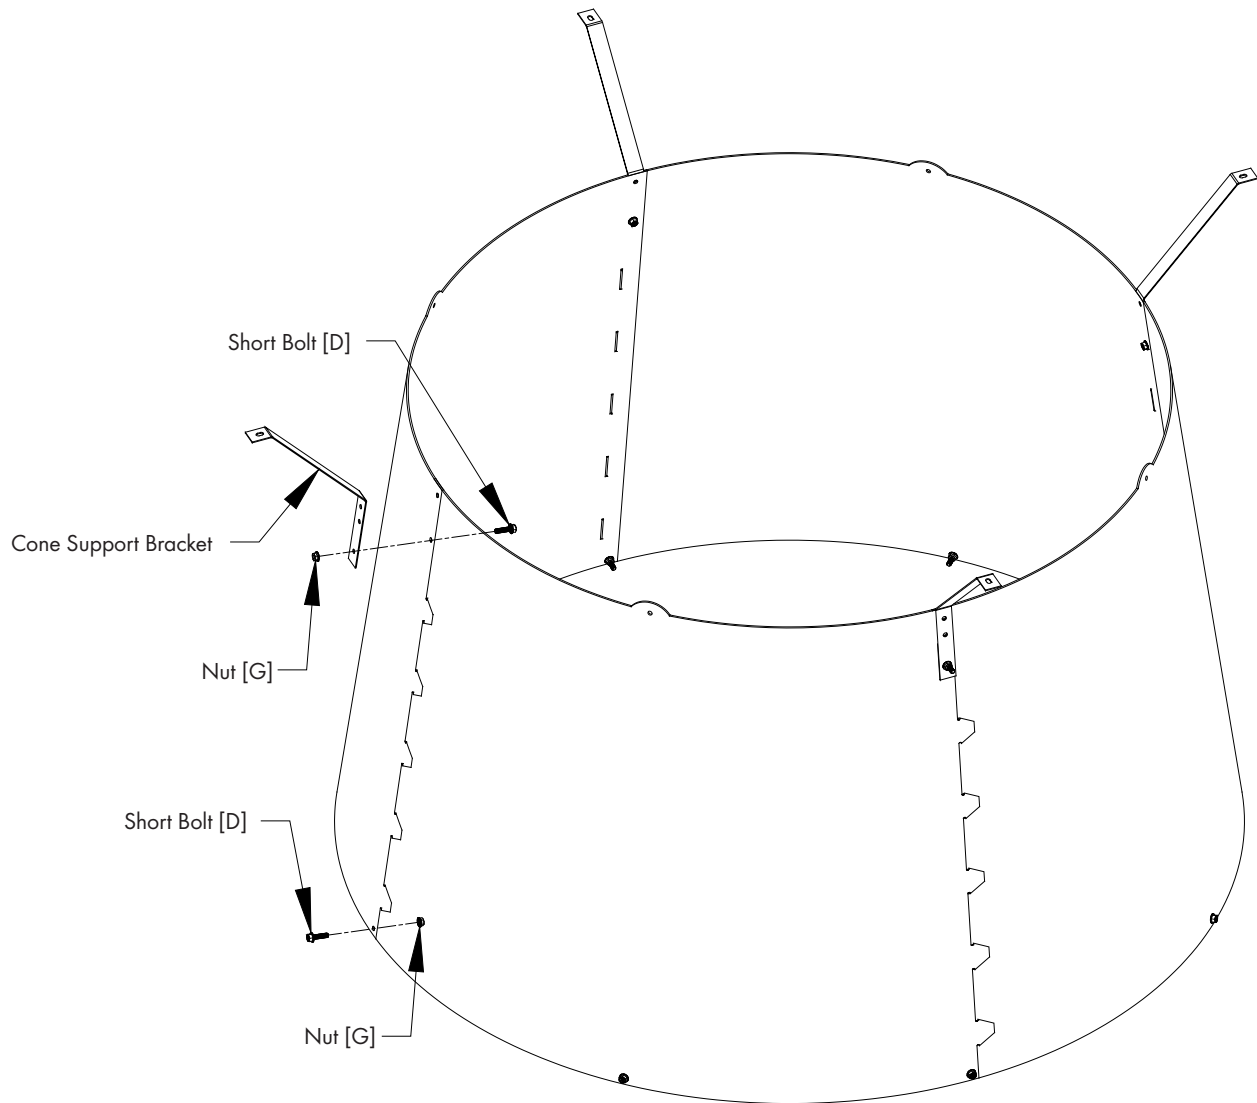

Figure 15B
Stand cone sections on end and curl ends around to form cone with Cone Support Bracket on outside and tabs on inside. Insert remaining tabs into slots so tabs are inside cone and fasten final joint using (1) Short Bolt [D] and Nut [G], with nut on inside of cone. At the inner pair of holes attach (1) Cone Support Bracket to the inner hole using (1) Short Bolt [D] and Nut [G] with bolt head on inside of cone. See Figure 15B.